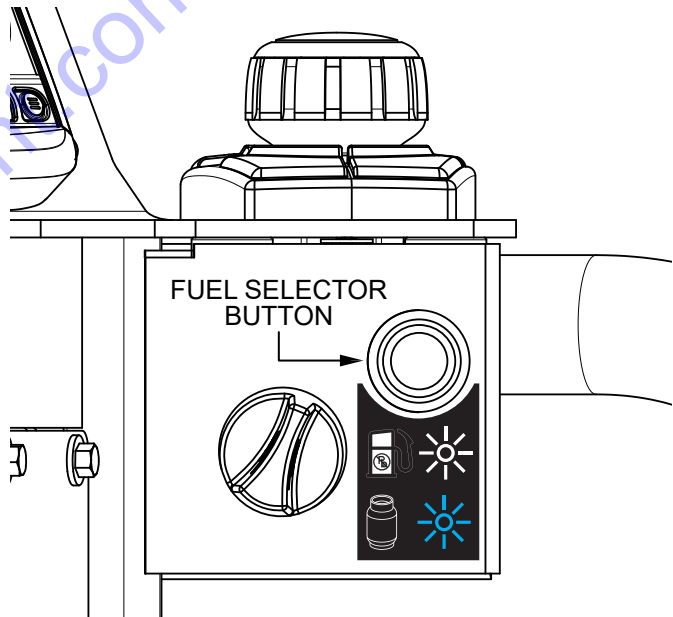

Figure 37. Fuel Selector Button
4. Select **GAS** or **LPG** fuel mode. Press the **fuel selector button** (Figure 37) to toggle between gasoline and LPG fuel systems. The selected fuel system is shown on the digital display. The fuel selector button will illuminate when LPG is selected.